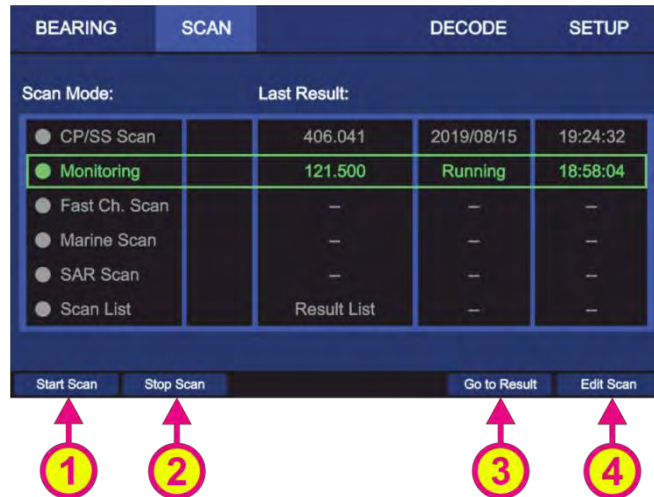

Figure 30. "Monitoring" has been activated
- To start the “Monitoring” mode select the corresponding line on the “Scan” page and press “OK” or the hotkey “Start Scan” (s. Figure 30, position 1)
- Pressing the hotkey “Stop Scan” (s. Figure 30, position 2) will terminate the current scan mode and change to the bearing of the frequency that was set before the scan mode has been activated.